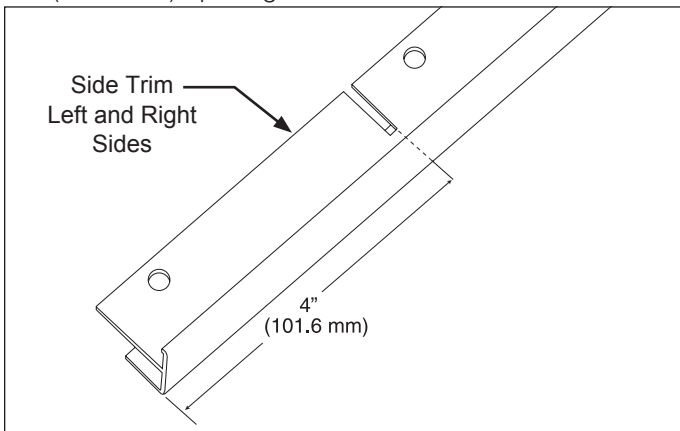

Figure 2
2. Cut 4" (101.6 mm) off the left and right Side Trim using the slot as a guide to make the proper size for a 75" (1905 mm) cut-out. (See Figure 2).